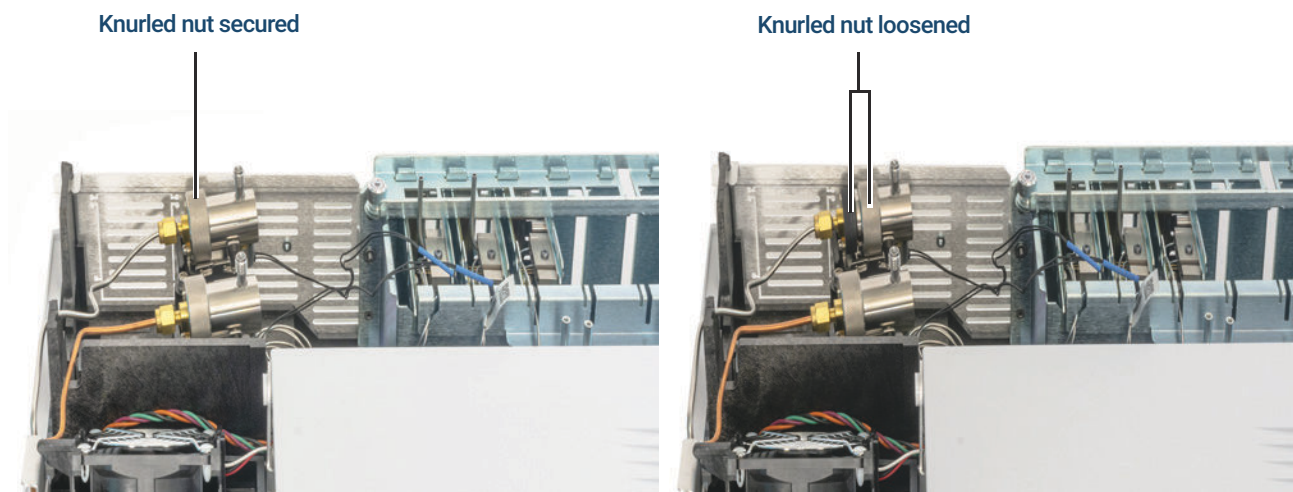

Figure 7. Loosen the knurled nut
4. Completely unscrew the knurled nut that secures the split vent trap cartridge in place until it spins freely as shown in Figure 7.